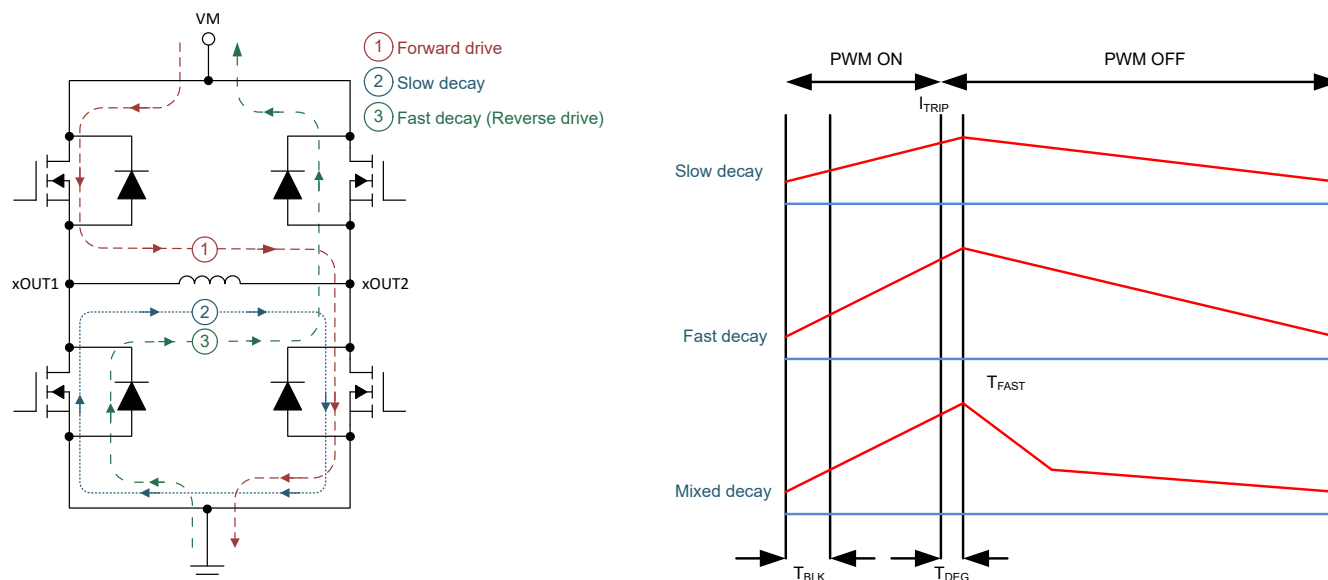

Figure 7-12. Decay Modes
During PWM current chopping, the H-bridge is enabled to drive through the motor winding until the chopping current threshold is reached. This is shown in Figure 7-12, Item 1.
winding current approaches zero, the H-bridge is disabled to prevent further reverse current flow. Fast decay mode is shown in Figure 7-12, item 2.
- In slow decay mode, the winding current is re-circulated by enabling both low-side MOSFETs in the H-bridge. This is shown in Figure 7-12, Item 3.